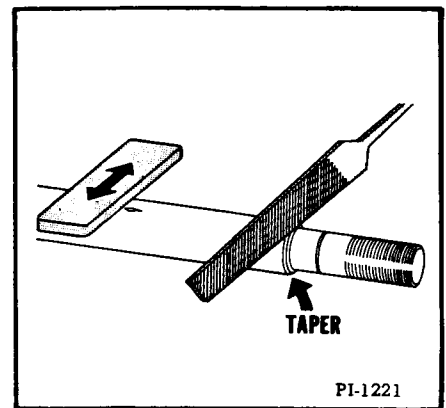

Fig. 35 Shaft Preparation
- (1) File or grind a slight bevel on the shoulder at the piston end of the cylinder shaft (Fig. 35). This will allow the seals to be installed over the shoulder without damaging them. Dress all nicks off the shaft (Fig. 35). Do not use a power grinder or a file for this purpose.
- (2) Soak the teflon piston seal in warm oil or water for several minutes before installing it. This will make it softer and easier to install.